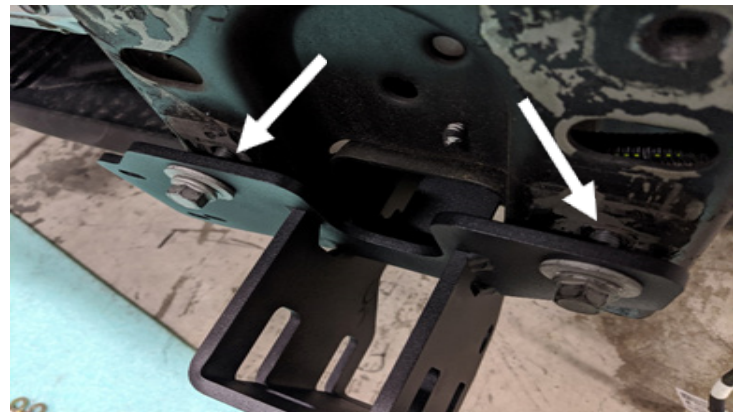

Figure 21
20. Insert both brackets into the frame rail ends and very loosely install two (2) Oem bolts into the frame rail end flange just supporting both brackets. Figure 21